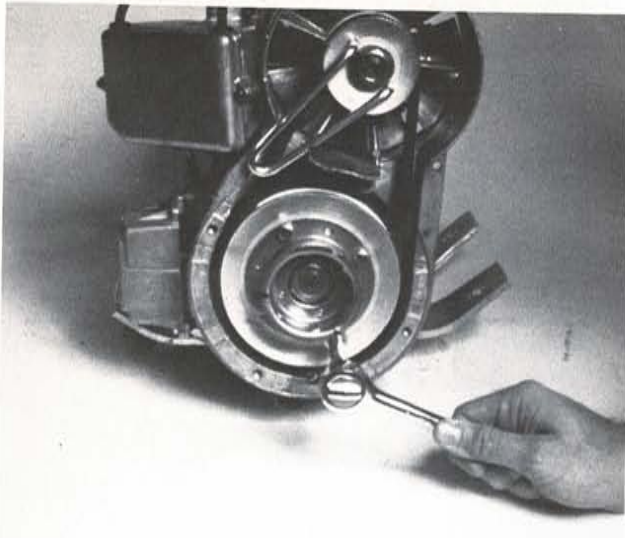

FIG. 12
10. Next remove the four bolts that secure starter cup and sheaves. (Fig. 12)